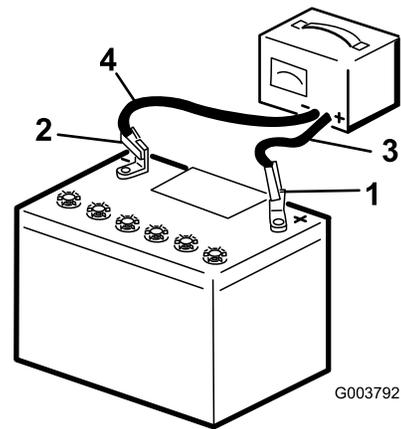

Figure 36
3. Charge the battery for 10 to 15 minutes at 25 to 30 amps or 30 minutes at 4 to 6 amps (Figure 36). Do not overcharge the battery.
4. When the battery is fully charged, unplug the charger from the electrical outlet, then disconnect the charger leads from the battery posts (Figure 36).